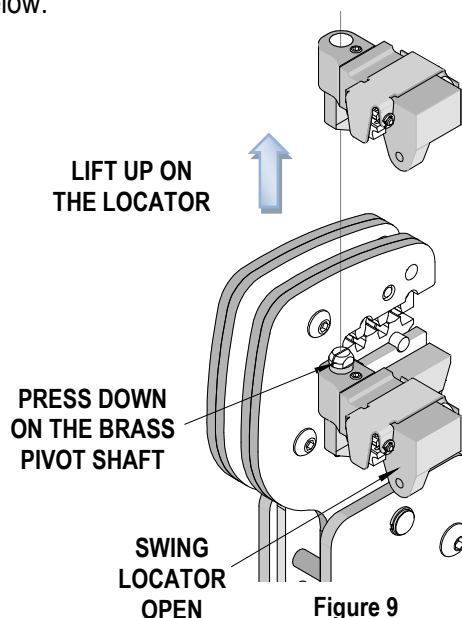

Figure 9
5. Firmly press down on the brass pivot shaft with your thumb while pulling up on the locator. Slip the locator off of the top of the brass pivot shaft. See Figure 9.